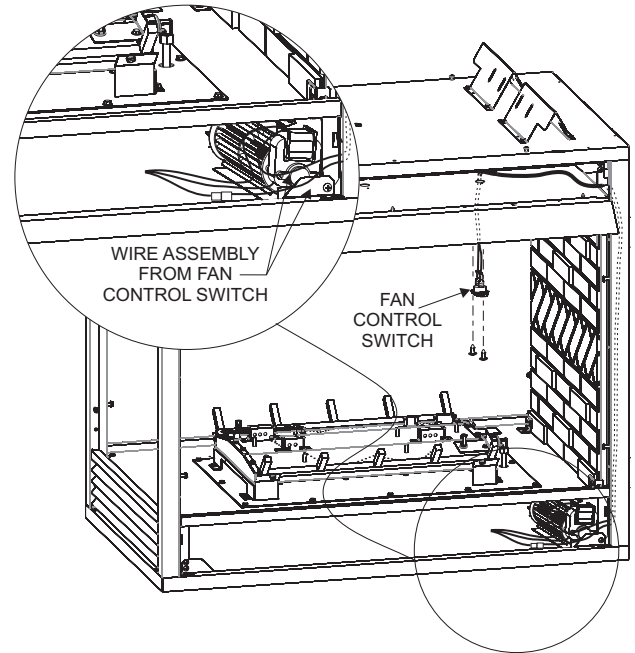

Figure 18
To install the blower kit or access the junction box, remove lower louver as illustrated by **Figure 18**.
**NOTICE:** On peninsula models, the blower must be installed at the end which has the brick panel installed. Position blower assembly so that you align the notch on back of blower assembly with the center screw on side/end panel, then push the blower assembly against fireplace outer panel. The blower wheel must be centered with the side/end wall of the fireplace. The magnets on the back and bottom of blower assembly will sufficiently hold blower assembly in place. **See Figure 18.**
3. Next, find the fan control wire assembly. Feed the wires over the top of the firebox. The fan control wires will slide down between the firebox and outer wrap near the blower assembly. **See Figure 18. Attach the two 3/16 inch wire terminals to the fan control switch as shown in Figure 19. Attach the wire terminals at the blower as shown by letters "A" and "B" in Figure 19.**